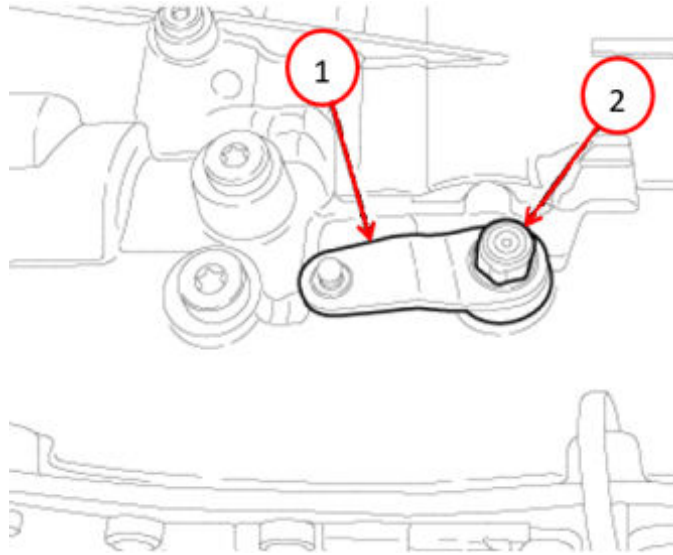

Fig. 48
74. Remove the tie strap and return the manual release lever to the original position Fig. 48.